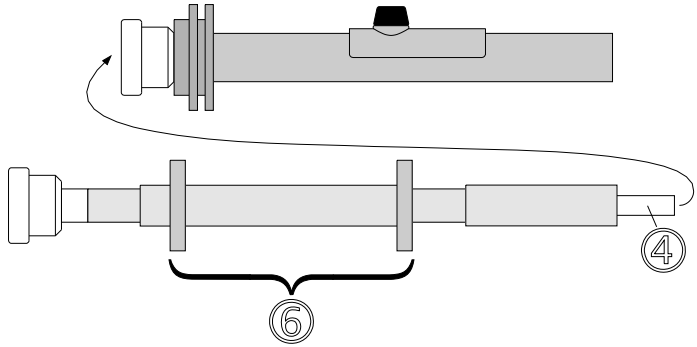

Fig. 4.3.a
In the simplest case, an extension bar is connected with an electrode clamping device to the handle of the ISOTEST[®] unit (Fig. 4.3.a). When doing this, it is necessary to ensure that the plastic tube at the end of the extension bar is firmly attached to the plastic nut of the handle. A locator tube ④ must be screwed into the extension bar.
Extension bars are connected **to each other** without a locator tube by screwing them inside each other (2 and 3 in Fig. 4.3.b). The extension bar 2 coupled to the handle 1 only requires to be provided with a locator tube 4. The locator tube is only screwed into the extension bars and can be changed easily.